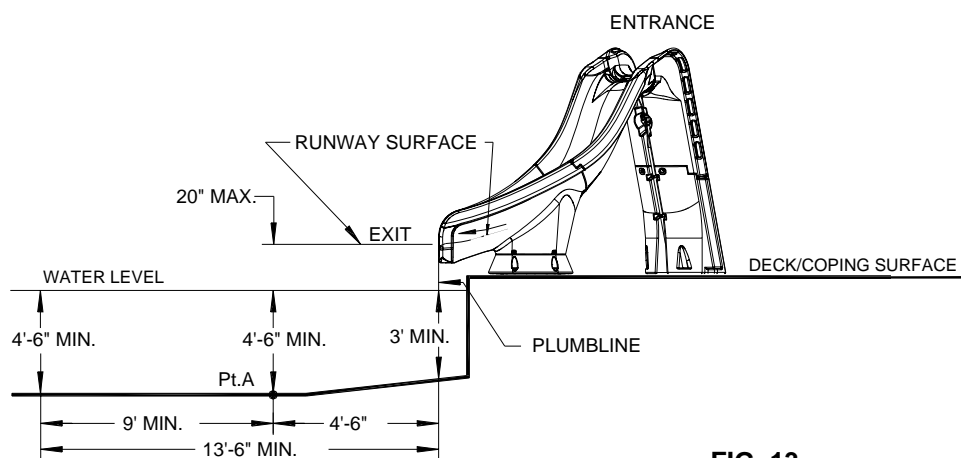

FIG. 13
- A. The slide exit runway surface shall not exceed twenty inches (20") above the water surface as shown in **FIG. 13**.
- C. The minimum depth of water below the exit lip of the slide shall be three feet (3') and increase to four feet six inches (4'-6") at Pt. A, which is a distance of four feet six inches (4'-6") from the exit lip of the slide as shown in **FIG. 13**.
- D. A minimum depth of four feet six inches (4'-6") shall be maintained at a distance of nine feet (9') along the extended centerline of the slide from Pt. A. as shown in **FIG. 13**.